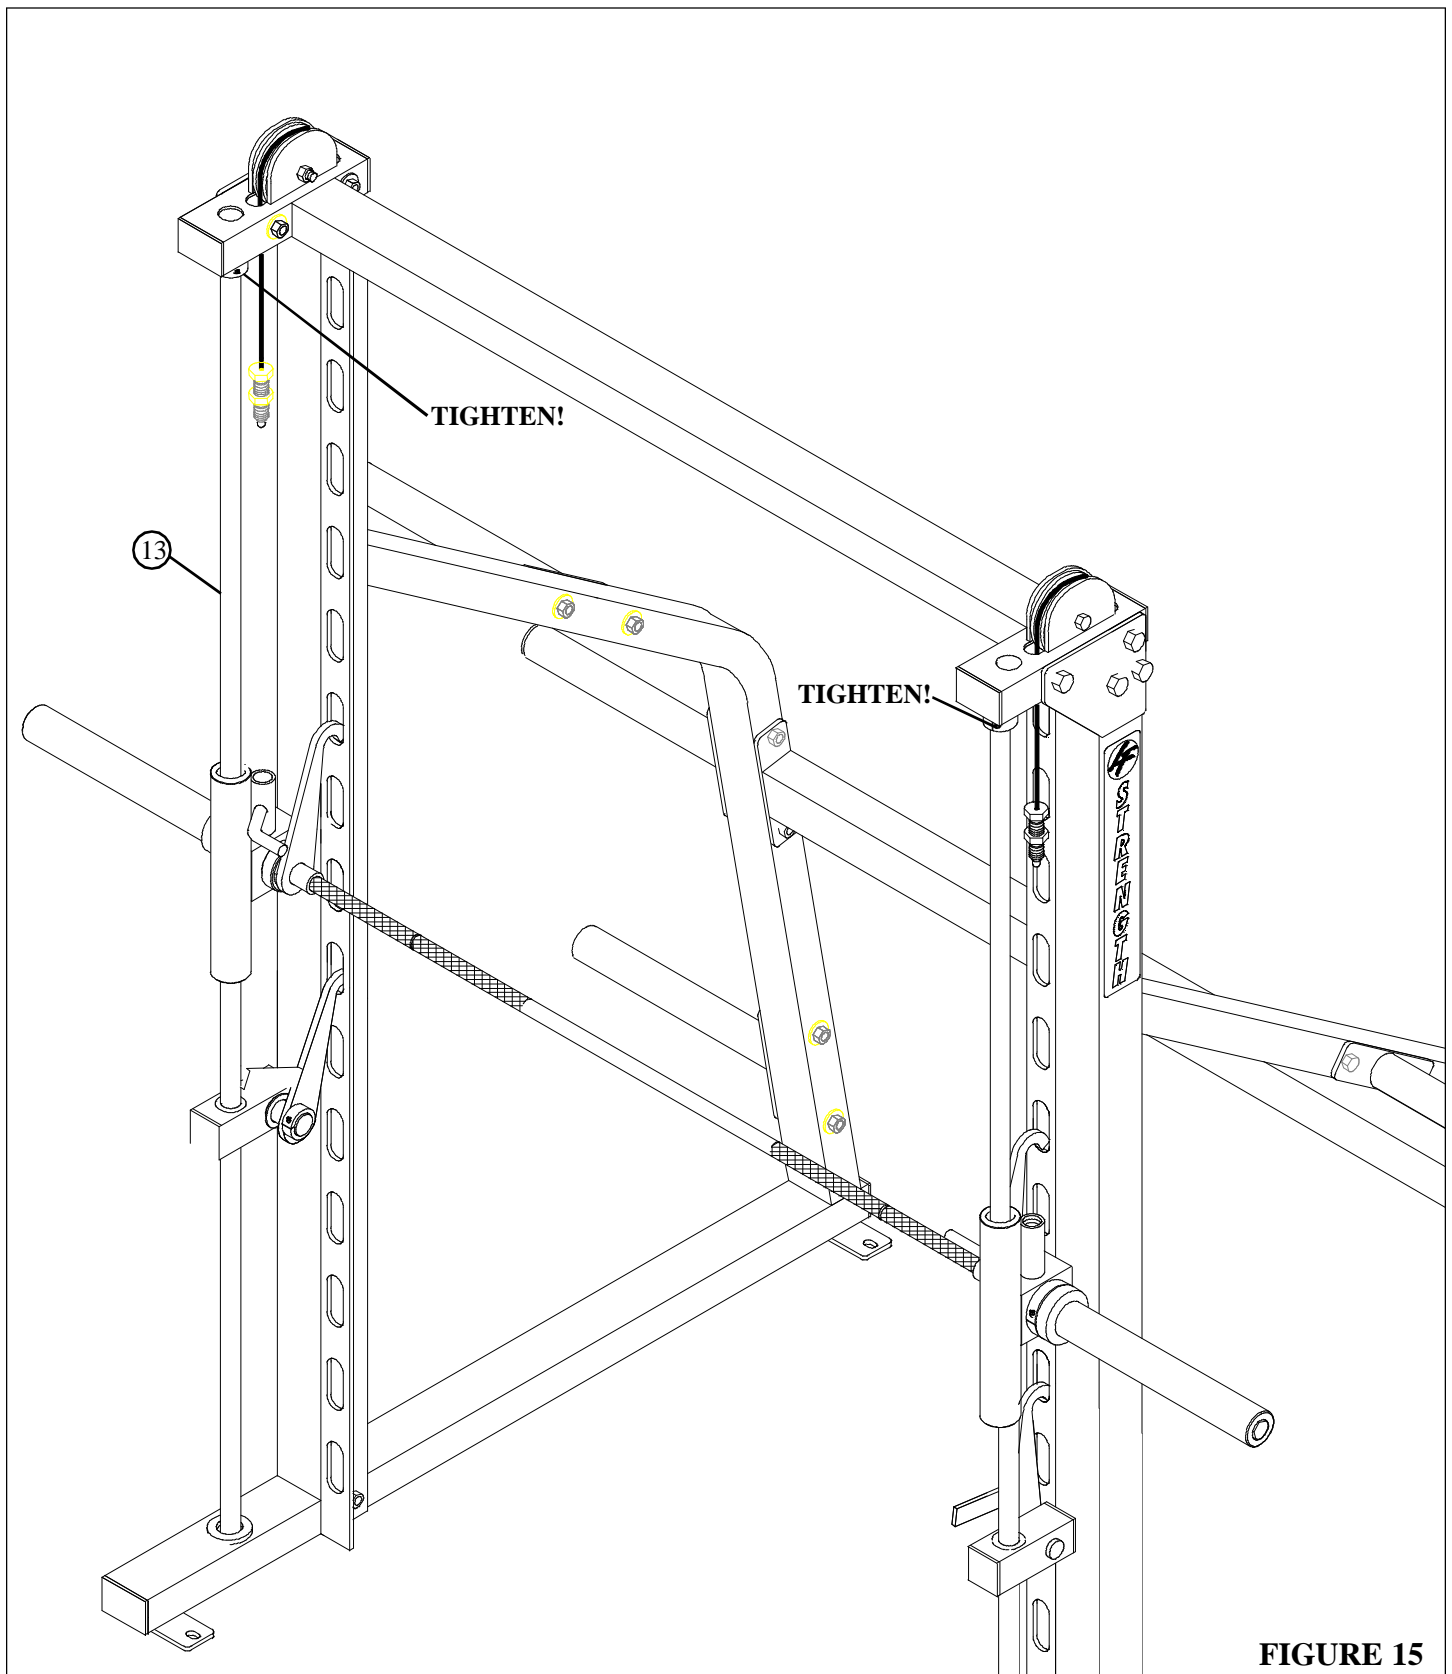

FIGURE 15
- **Loosen** each 1" SHAFT COLLAR (24) and slide each one up firmly against the BUSHINGS of the UPPER SUPPORT (11). See FIGURE 15.
- Using a 3/16" Allen wrench, **SECURELY** tighten each set screw on the 1" SHAFT COLLARS (24). See FIGURE 15.